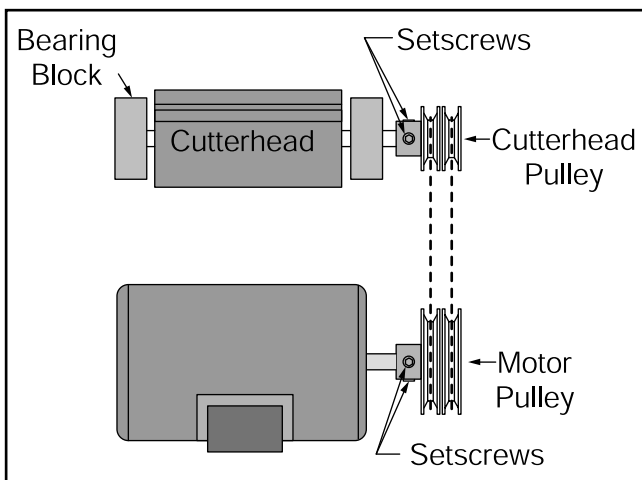

Figure 20. Pulley and V-belt alignment.
- Move the motor on the mounting plate to align the motor and cutterhead pulleys with each other (See **Figure 20**). Visually confirm the pulley alignment from above (for the best accuracy use a straightedge for alignment confirmation).